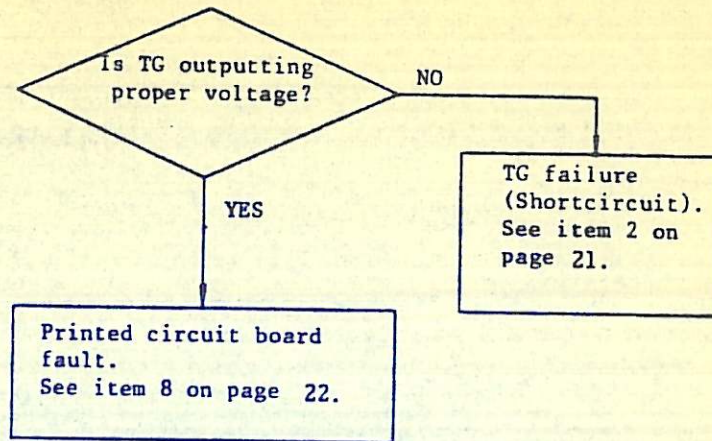

Fig. 15
- 5. The motor runs fast even if the reference input is 0 V. See Fig. 15.